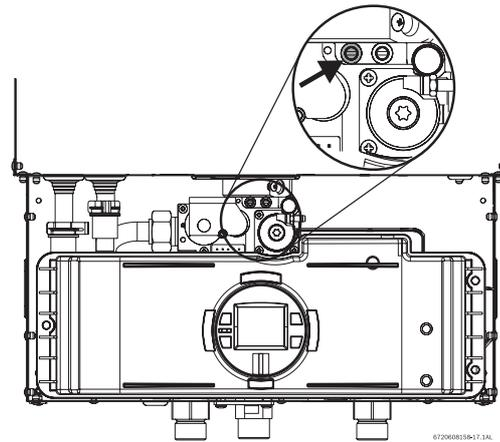

Fig. 38 Gas pressure test port (left tapping)
- ▶ Remove front cover and locate inlet gas pressure test port (see Fig. 38).